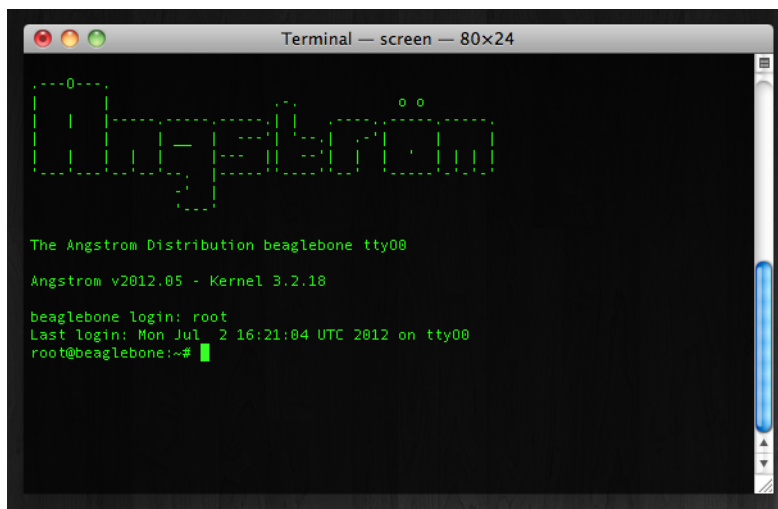

Figure 2-4. *The serial log in screen*
4. The screen will blank (besides a blinking cursor). Hit enter to display the login screen (Figure 2-4).
5. The screen will blank (besides a blinking cursor). Hit enter to display the login screen (Figure 2-4).